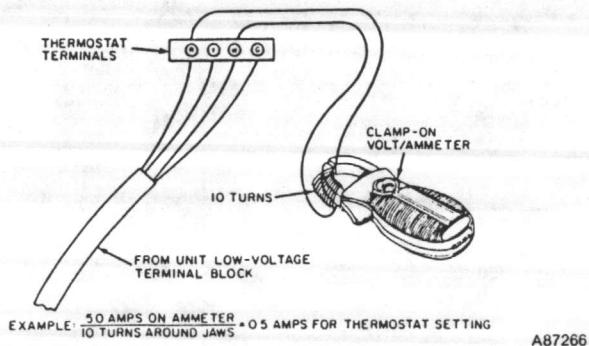

Fig. 10—Amp Draw Check with Ammeter
Step 7—Set Heat Anticipator—To set heat anticipator, move heat anticipator to maximum setting. Determine the W terminal that powers the electric heater controls. With heaters energized, measure amperage between appropriate W and R terminals and set heat anticipator to same value. See Fig. 10 for simple method of obtaining actual amp draw.